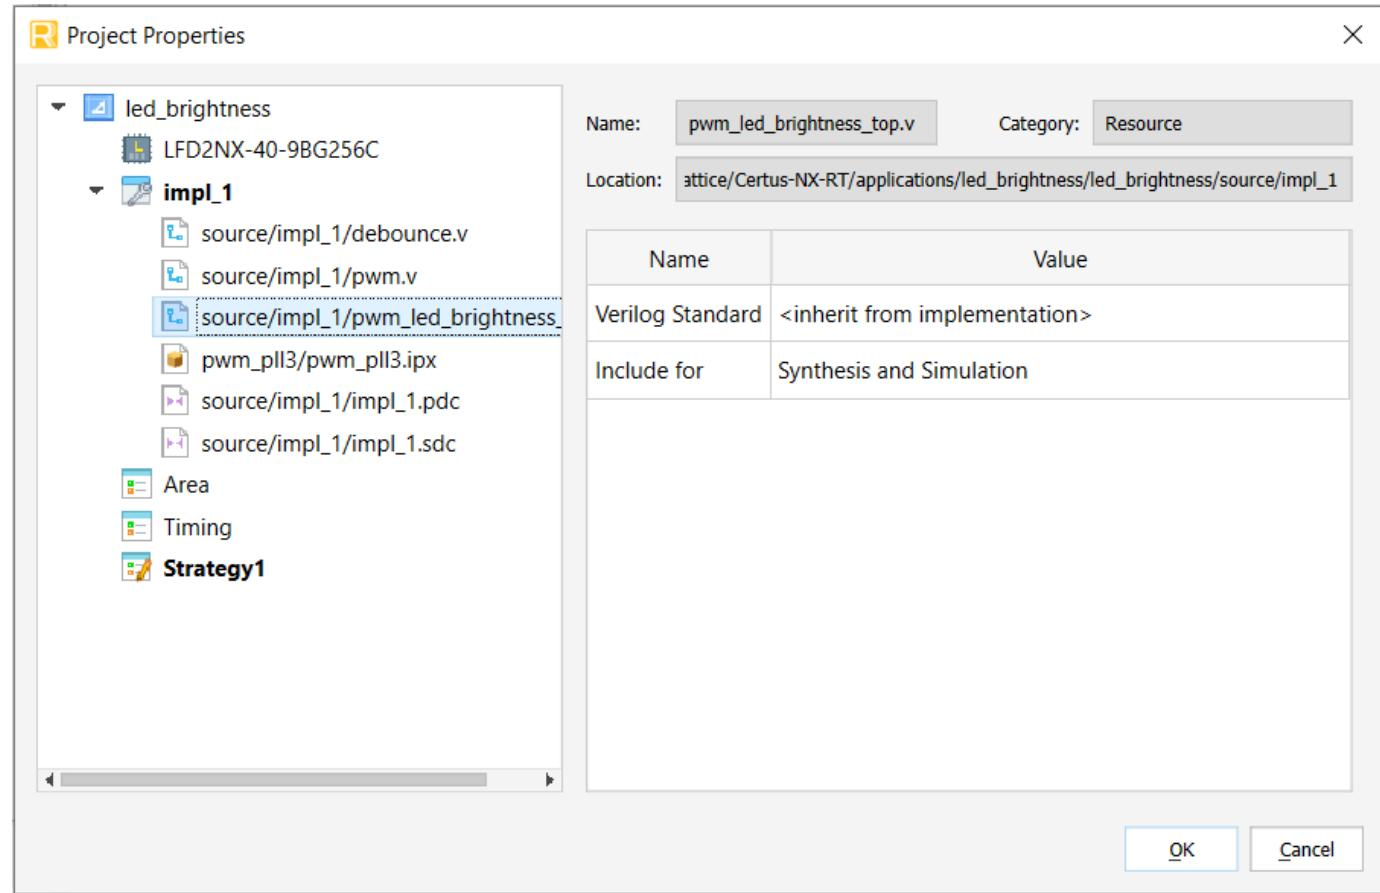

Figure 11: Setting a Top Level File
12. From the **Project** menu, select **Active Implementation > Set Top-Level Unit...** and set **pwm_led_brightness_top.v** as the top level file, see **Figure 11**.